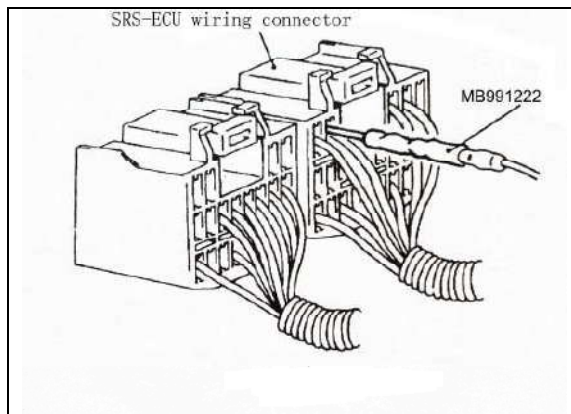
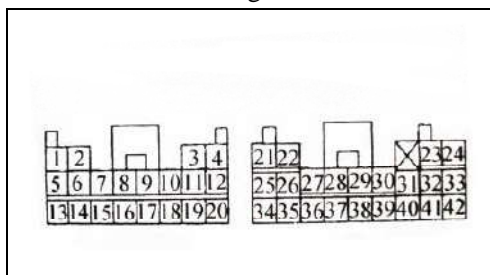

Fig 19-6
Fig 19-7
8. Inspection of the SRS-ECU harness connector should be carried out by the following procedure.(See fig 19-6,fig19-7)